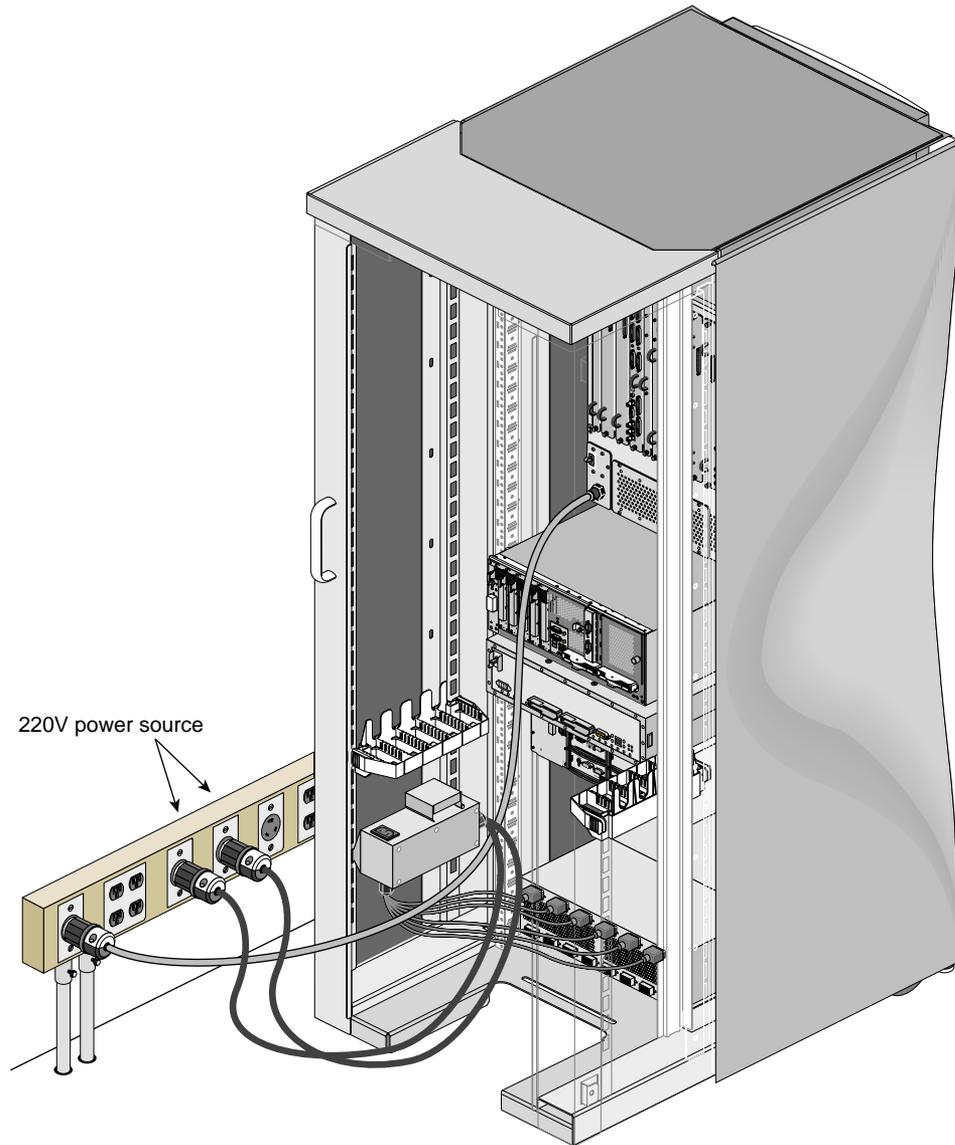

Figure 4-3 Connecting the PDU Power Cable
- Between the PDU or PDS and the power receptacle (see Figure 4-3).
Figure 4-3 shows the connection between a PDU power cable and an external power receptacle.